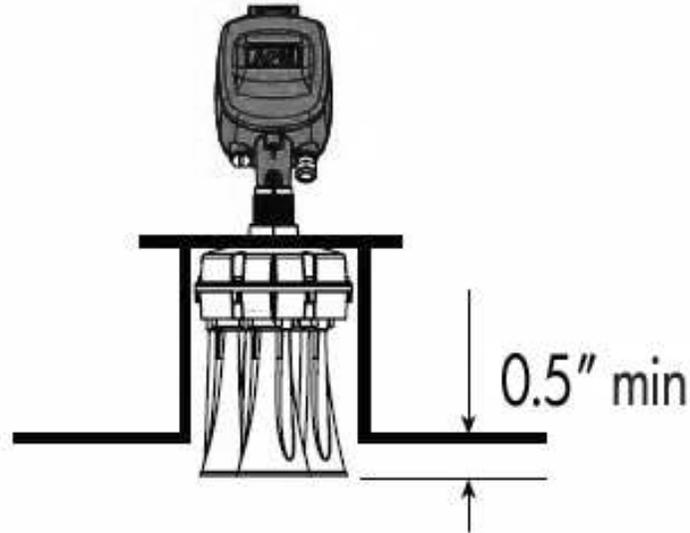
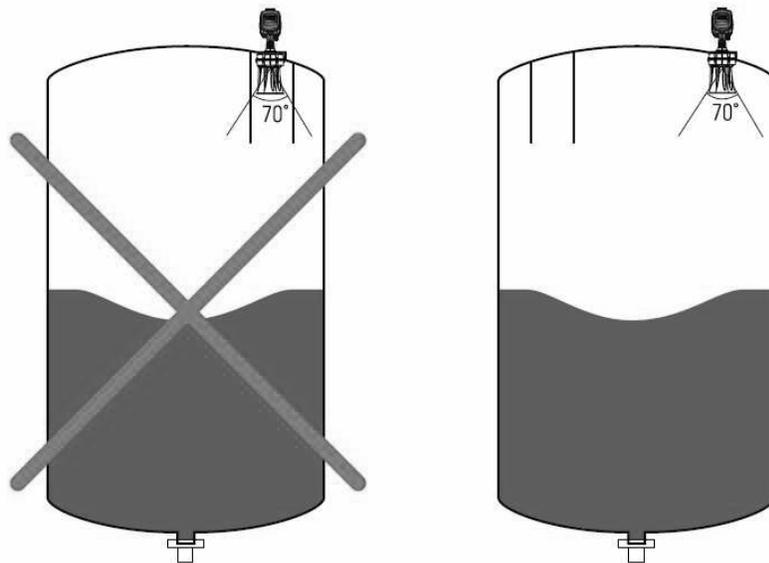

Figure 23 Antennas Location
Figure 24 Scanner Beam
- ⦿ Ensure that the bottom of the scanner (antennas) protrudes at least 10 mm (0.4 inch) out of the socket, as shown in Figure 23. Ensure that no rails or frames interfere with the beam (opening angle) of the scanner, as shown in Figure 24. Interference can reduce the signal to noise ratio (SNR) and damage signals coming back to the scanner.